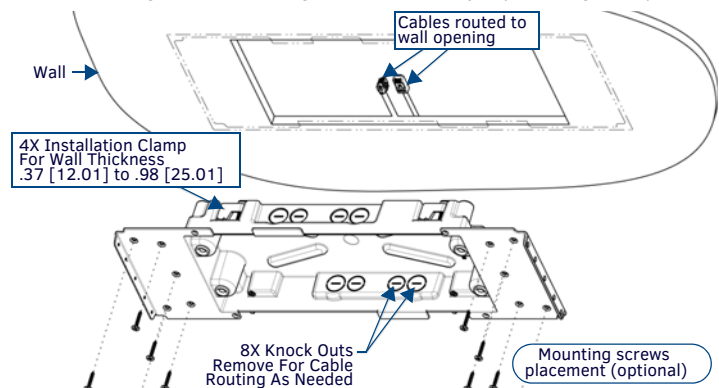

FIG. 4 MXD-1900L-PAN BACKBOX INSTALLATION (LANDSCAPE)
- Thread the incoming cables from their terminal locations through the surface opening (see FIG. 4 on reverse). Leave enough slack in the wiring to accommodate any re-positioning of the panel.
- For additional strength, #4 mounting screws (not included) may be secured through the mounting holes located at the left and right sides of the panel (FIG. 4). In order to prevent damage to the touch panel, make sure that these are flush with the Backbox.